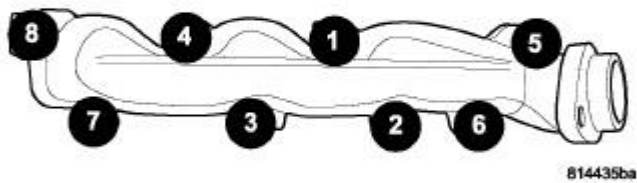

Fig. 247: Exhaust Manifold Bolt Tightening Sequence - Left
2. Install manifold bolts and tighten to 25 N.m (18 ft. lbs.) in the sequence shown. See **Fig. 247**.